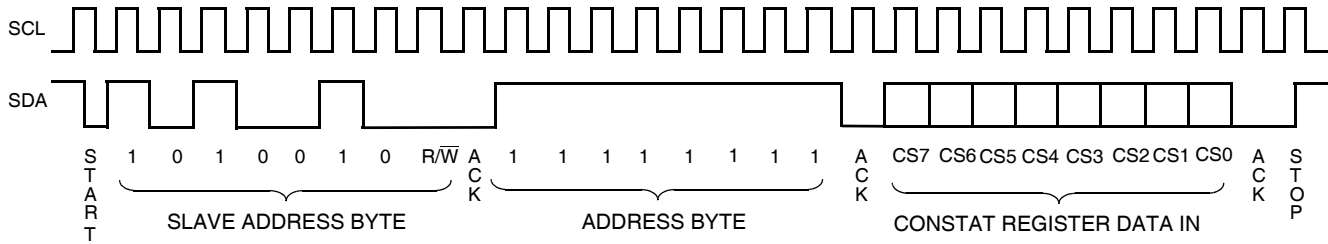

Figure 12. CONSTAT Register Write Command Sequence
Writes to the WEL bit do not cause an internal high voltage write cycle. Therefore, the device is ready for another operation immediately after a STOP condition is executed in the CONSTAT Write command sequence (See Figure 12).
- After a successful write operation to any bits of the CONSTAT register has been completed (See Figure 12).
The CONSTAT register is accessed using the Slave Address set to 1010010 (Refer to Figure 4.). Following the Slave Address Byte, access to the CONSTAT register requires an Address Byte which must be set to FFh. Only one data byte is allowed to be written for each CONSTAT register Write operation. The user must issue a STOP, after sending this byte to the register, to initiate the nonvolatile cycle that stores the DWLK bit. The X9522 will not ACKNOWLEDGE any data bytes written after the first byte is entered (Refer to Figure 12.).